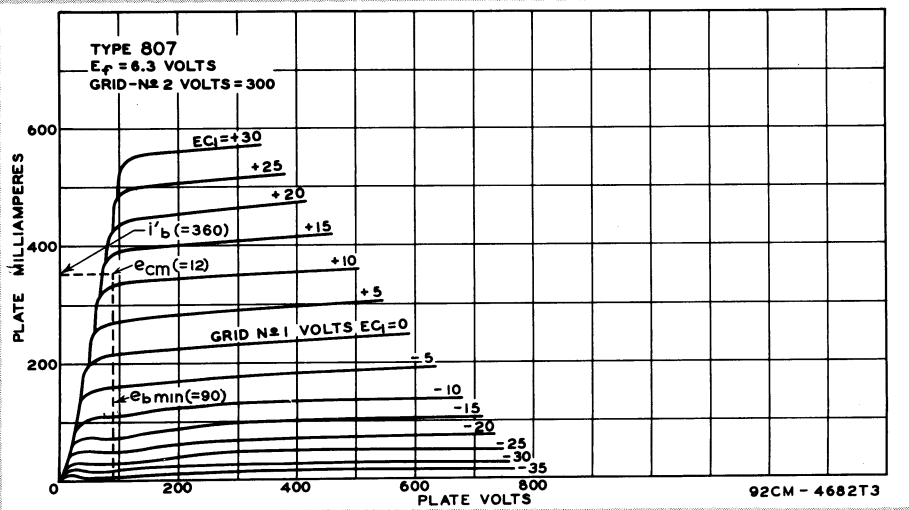
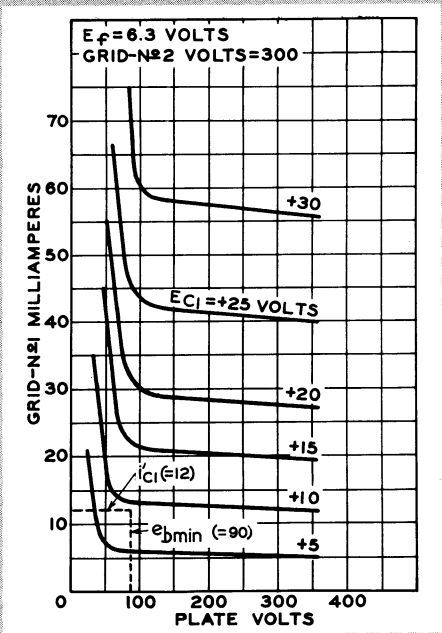

Fig. 1. Average plate characteristics for the type 807 tube (grid-No. 2 voltage = 300).
Fig. 2. Average control-grid characteristics for the type 807 tube grid-No. 2 voltage = 300).
4. From the 300-v E_{c2} curves, Fig. 1, select $e_{bmin} = 90 \text{ v}$, and read $e_{cm} (= +12 \text{ v})$. From Figures 2 and 3, read $i'_{c1} = 12 \text{ ma}$, and $i'_{c2} = 35 \text{ ma}$, respectively.
$$10. E_{c1} (\text{from Fig. 1}) = -35 \text{ v.}$$